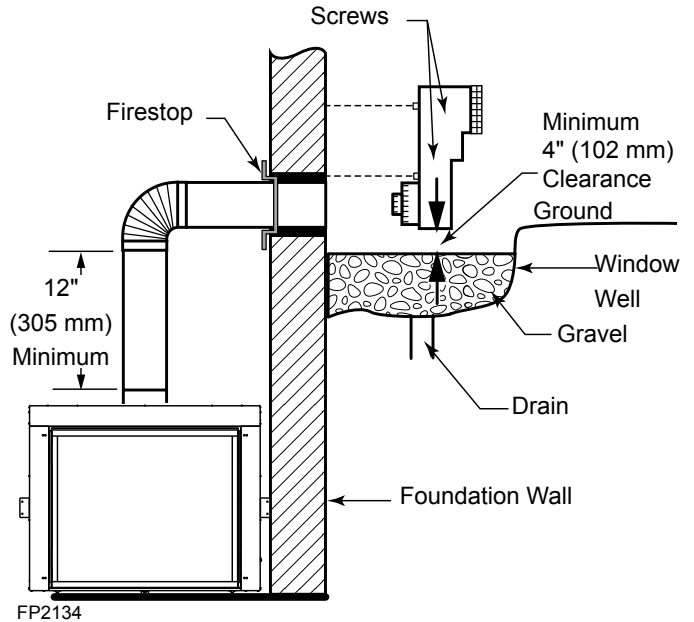

Figure 5.9 - Below Grade Installation
2. Remove soil to a depth of approximately 16" below base of snorkel. Install drain pipe. Install window well (not supplied). Refill hole with 12" of coarse gravel leaving a clearance of approximately 4" below snorkel. Figure 5.9.
7. Level the soil so as to maintain a 4" clearance below snorkel. Figure 5.9.